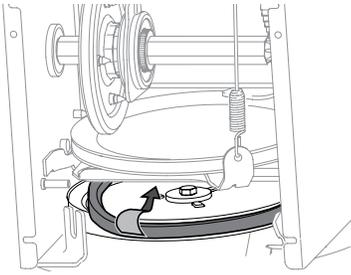

Figure 4-14
- Remove belt from around auger pulley, and slip it between support bracket and auger pulley. See Figure 4-14.